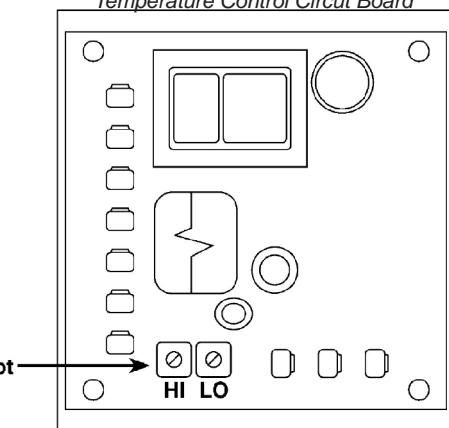

FIG. 6-1
7. Locate temperature control circuit board (see Figure 6.1) and calibrate as follows: